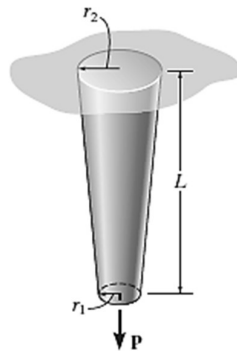

Fig. 7
7. The rod has a slight taper and length  $L$ . It is suspended from the ceiling and supports a load  $P$  at its end. Show that the displacement of its end due to this load is  $\delta = PL/\pi E r_2 r_1$ . Neglect the weight of the material. The modulus of elasticity is  $E$ . [Fig. 7]